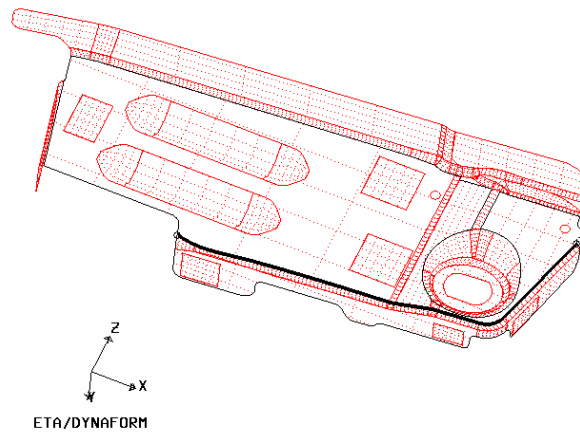
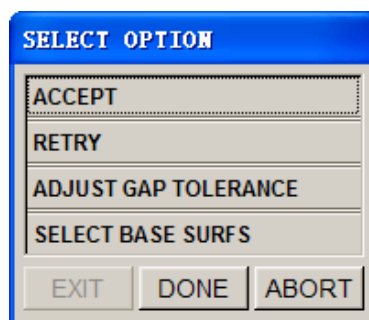

Figure 6.1.3 Unfold Line and Boundary Line
Figure 6.1.4 Select Option dialog box
- After selecting surfaces, the DFE module will determine and highlight the unfold line and the boundary line. As shown in Figure 6.1.3, the bold line is the unfold line, and the other is the boundary line of the base surface and unfolded surface. eta/DYNAFORM displays a SELECT OPTION dialog box as illustrated in Figure 6.1.4. The user has to select an option to continue operation.